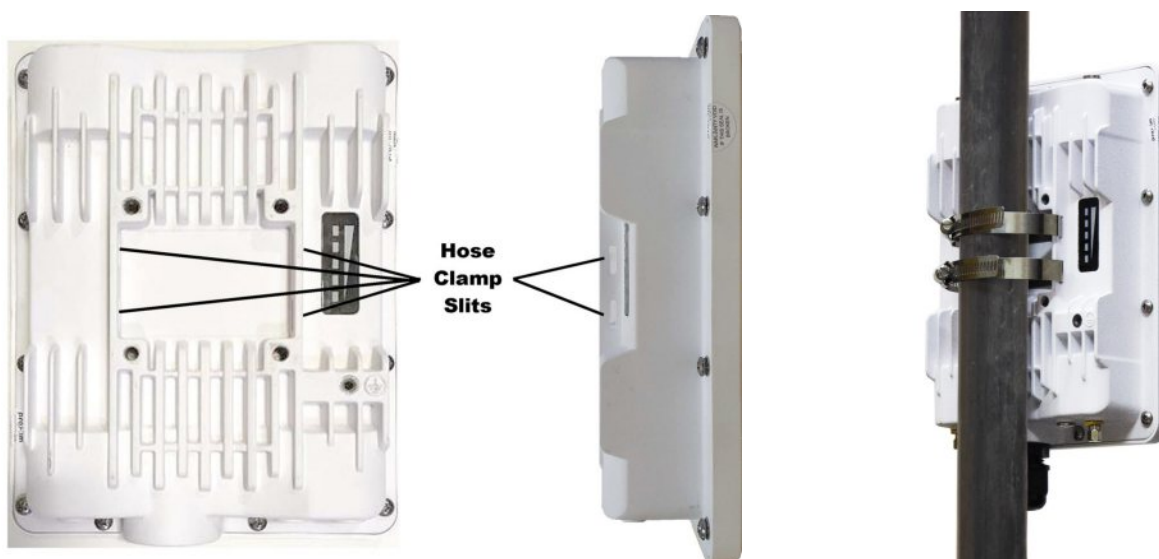

Figure 4-4 Pole Mounting
1. To pole mount the device to a 1 to 2.5 inch diameter pole, insert the two Hose Clamps through the hose clamp slits at the bottom of the Device. See Figure 4-4.